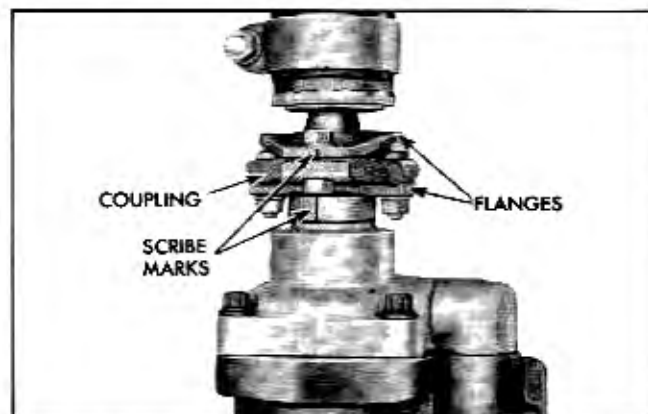

Fig. 9-64 Alignment Marks on Steering Flanges
5. Align scribe marks on steering shaft and worm shaft flange (Fig. 9-64).